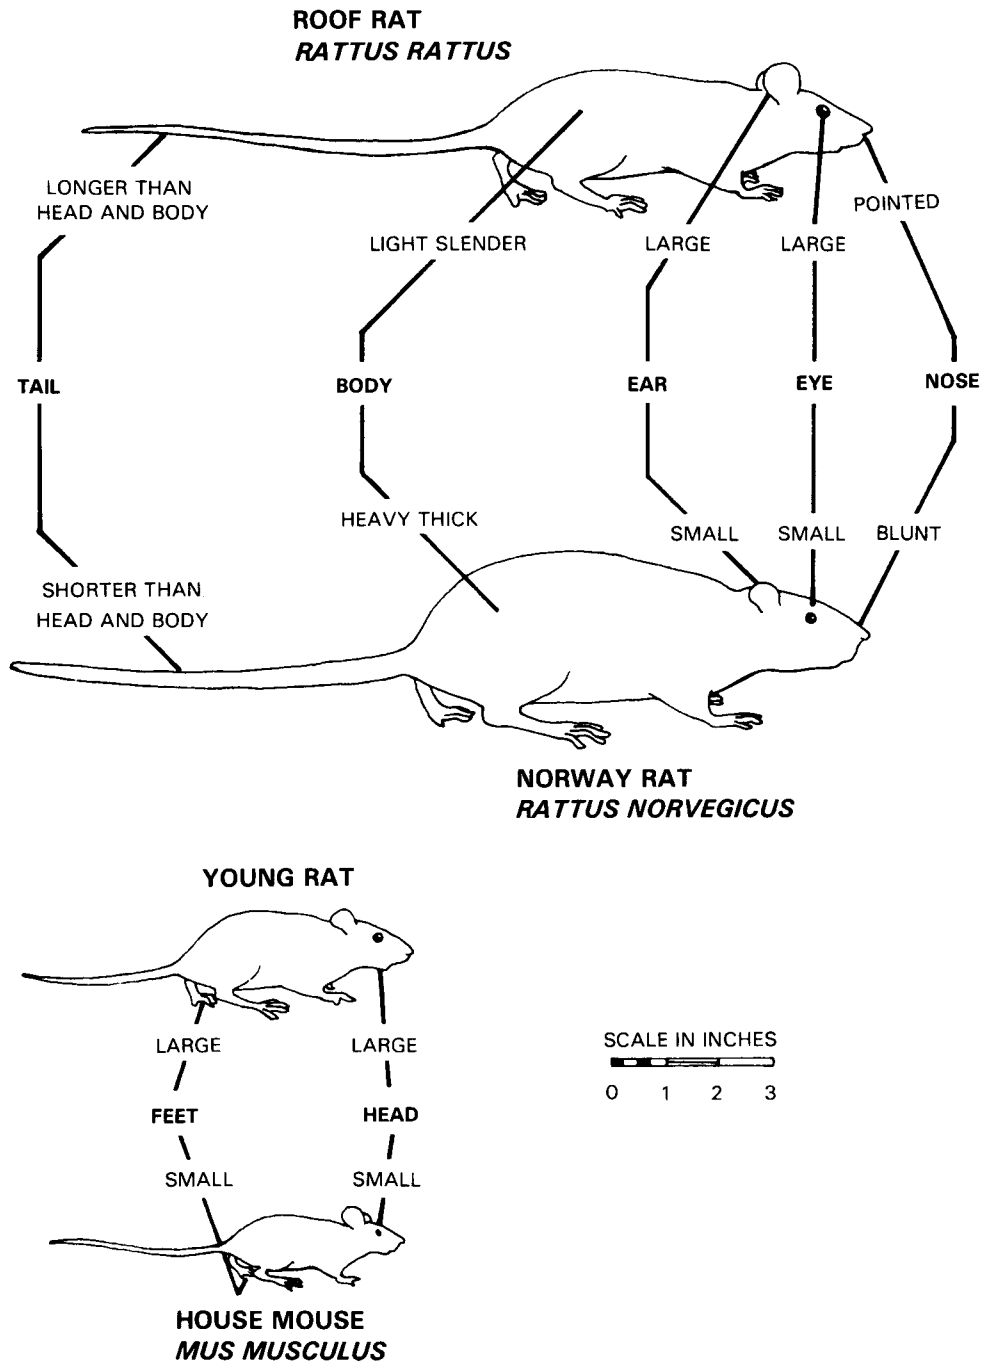

Figure 2-3. A pictorial key of domestic rodents.
*b.* During recent times, three rodent species have associated themselves with man for their primary requirements of food and shelter. These are the Norway rat, the roof rat, and the house mouse. A pictorial key for field identification of these three domestic rodents is provided in Figure 2-3.